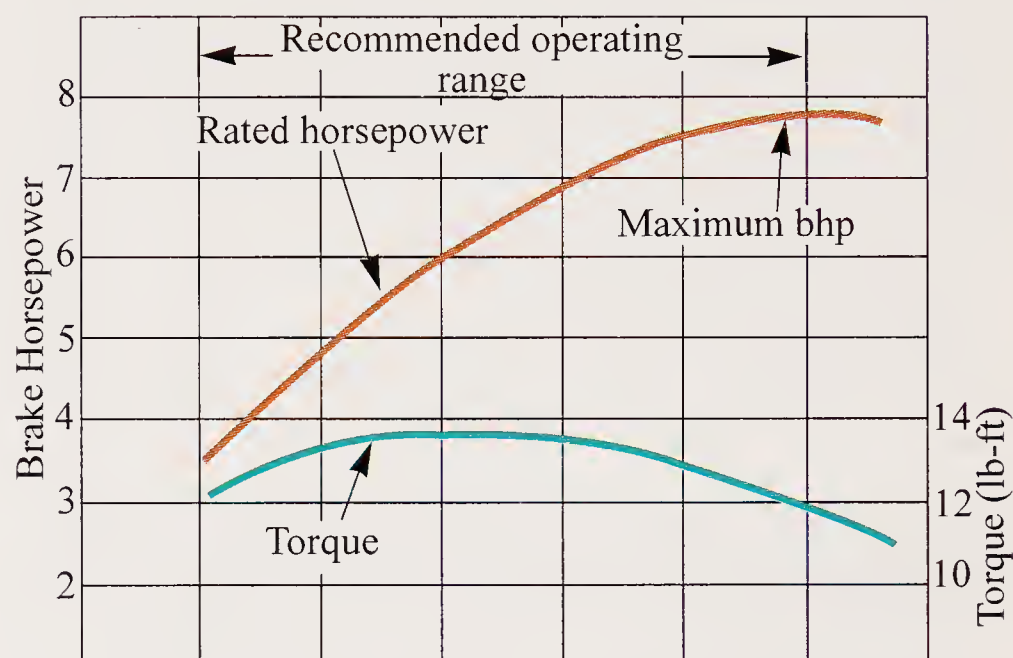

Figure 6-23. An illustration of the relationship between torque and horsepower for one particular engine. (Clinton Engine Corp.)
Figure 6-23 shows the relationship between torque and horsepower curves for one specific engine. Note the arrow indicating the rated horsepower. This is the horsepower at which the engine can be operated continuously without damage.
3. Use a dynamometer to develop a graph like the one in **Figure 6-23**. Compare the graph with the manufacturer's graph for the same model engine.